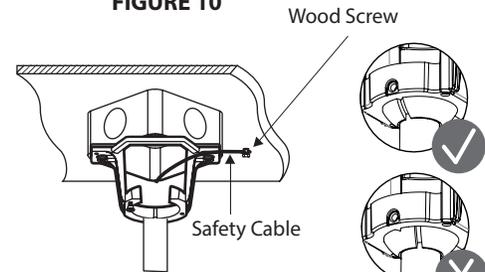

FIGURE 11
Make sure the tab on the mounting bracket socket is properly seated in the groove in the hanger ball (Fig. 11). Rotate the socket assembly until the ball drops and locks into the hanger bracket screw.
4. Secure the safety cable to the building structure using a wood screw (not included) (Fig. 11).